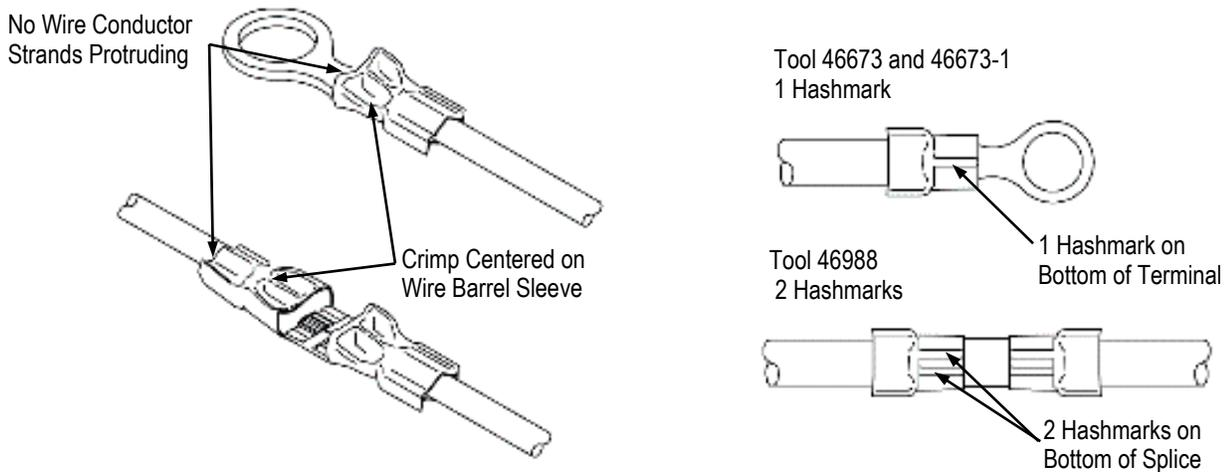

Figure 6
8. Inspect the crimp. Refer to Figure 6 for a properly crimped terminal and splice. Check the insulation grip on the crimped terminal or splice. Refer to Section 4, INSULATION CRIMPING ADJUSTMENT.
The hashmark code on the bottom of the wire barrel sleeve created by the tool should match the hashmark code referenced with the appropriate tool. See Figure 6.